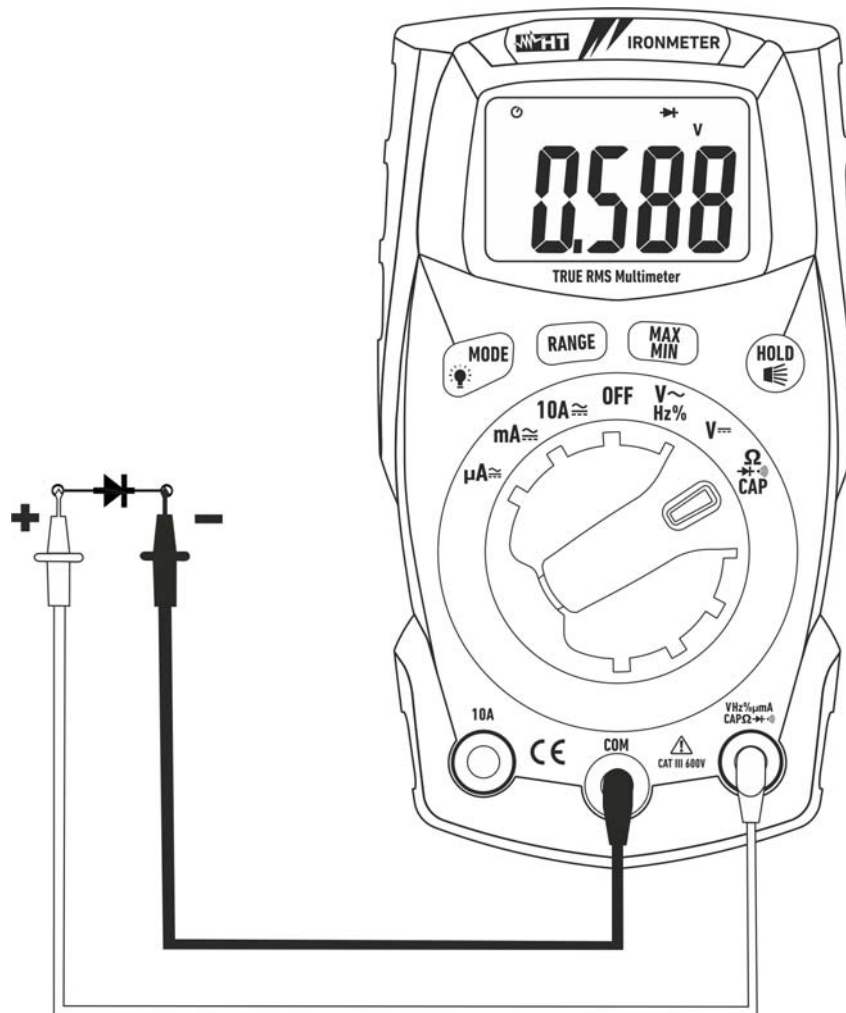

Fig. 6: Use of the instrument for diode test
4. Position the leads at the ends of the diode to be tested (see Fig. 6), respecting the indicated polarity.
7. If the display shows the message "**O.L**", the terminals of the diode are reversed with respect to the indication given in Fig. 6 or the P-N junction of the diode is damaged